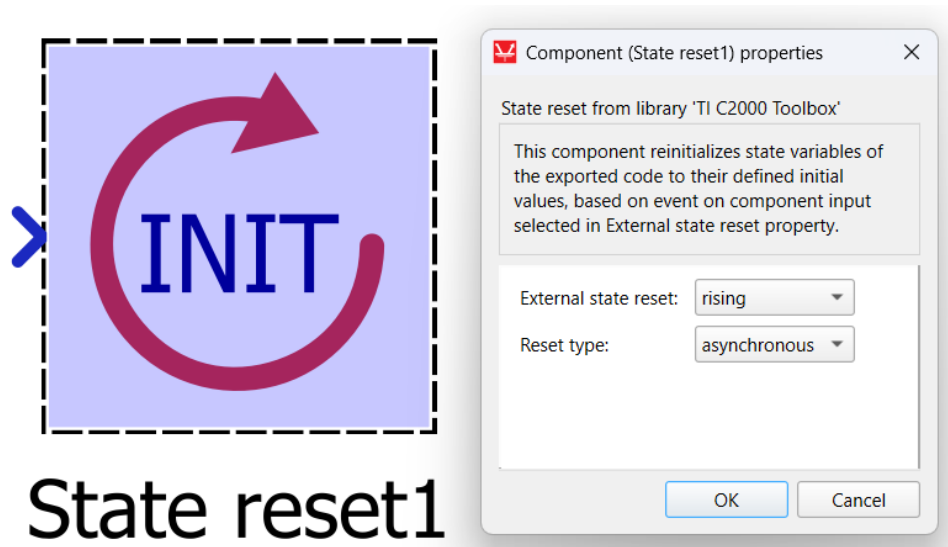

Figure 3. State reset component and its dialog.
*State reset* component (Fig. 3) is used to reset *EVERY* state in exported code. Basically, the initialization function(s) of exported code will be executed – the same ones that are executed once the code is flashed. Most importantly, it will execute following actions: